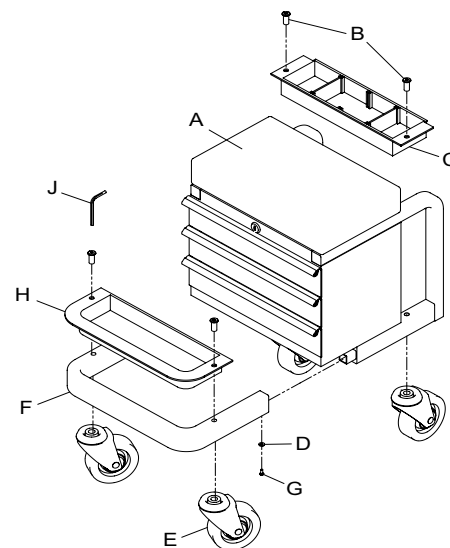

Figure 1 - Assembly
Before beginning assembly of product, make sure all parts are present. Compare parts with package contents list and Figure 1 illustration. If any part is missing or damaged, do not attempt to assemble, install or operate the product. Contact customer service for replacement parts.
ASSEMBLY INSTRUCTIONS (ref. Figure 1)
1. Join frame sections by inserting front frame section (F) into channel sections of tool box subassembly (A). Line up screw holes and thread screws (G) fitted with washers (D) into corresponding holes in channel sections. Do not tighten screws yet.
2. Assemble a caster (E) and a tool tray (C or H) simultaneously. Position a caster stud into lower frame hole as seen in Figure 1. Place tool tray into position by aligning the lower frame thru-hole with corresponding hole in tool tray. Insert caster fastener into the swivel caster stud.
OPERATING INSTRUCTIONS (Refer to Fig. 1)
Avant d'assembler le produit, assurez-vous d'avoir toutes les pièces. Comparez les pièces que vous avez sous la main avec la liste du contenu de l'emballage et l'illustration de la figure 1. Si une pièce est endommagée ou manquante, n'assemblez pas, n'installez pas et n'utilisez pas le produit. Communiquez avec le service à la clientèle pour obtenir des pièces de rechange.
INSTRUCTIONS D'ASSEMBLAGE (voir figure 1)